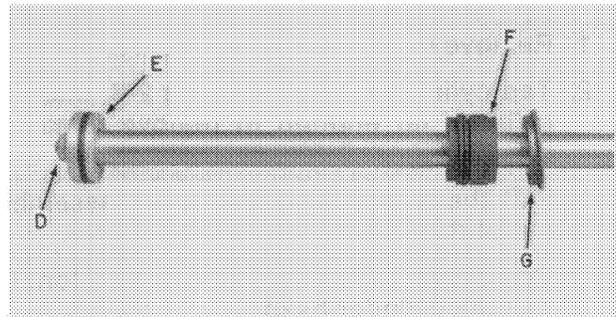

FIGURE 2-12
4. Remove rod nut, D, Figure 2-12, and remove piston, E, and cylinder head, F. Remove end cap, G.
2. Install the cap, cylinder head, and piston as shown in Figure 2-12. Tighten rod nut, D, to 250 ft. lbs. (339 N·m) torque.